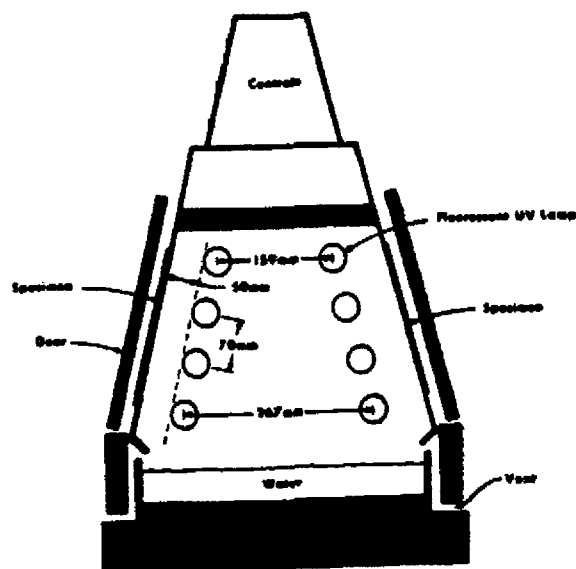

FIGURE 1
3.1 QUV Accelerated Weathering Tester equipped with UVA-340 Fluorescent bulbs. See FIGURE 1